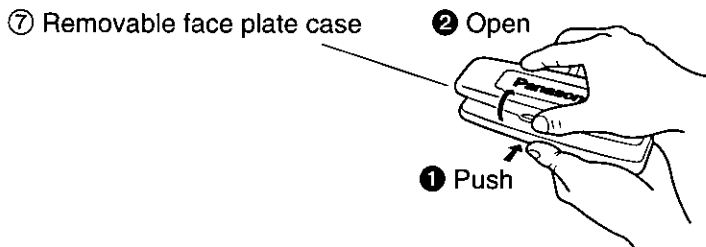

Fig. 6
④ As shown in Fig. 6, gently push the lower side of the case and open its cover. Keep the removable face plate in the case. Then you can safely take the plate with you.